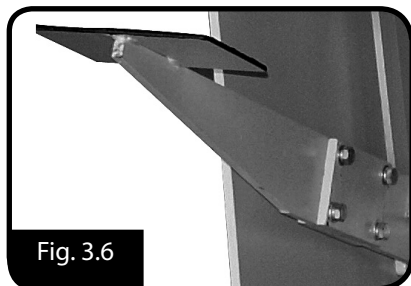

Fig. 3.6
- Unpack and attach the two foot pedals and attach with the 4 bolts supplied. (Fig.3.6)